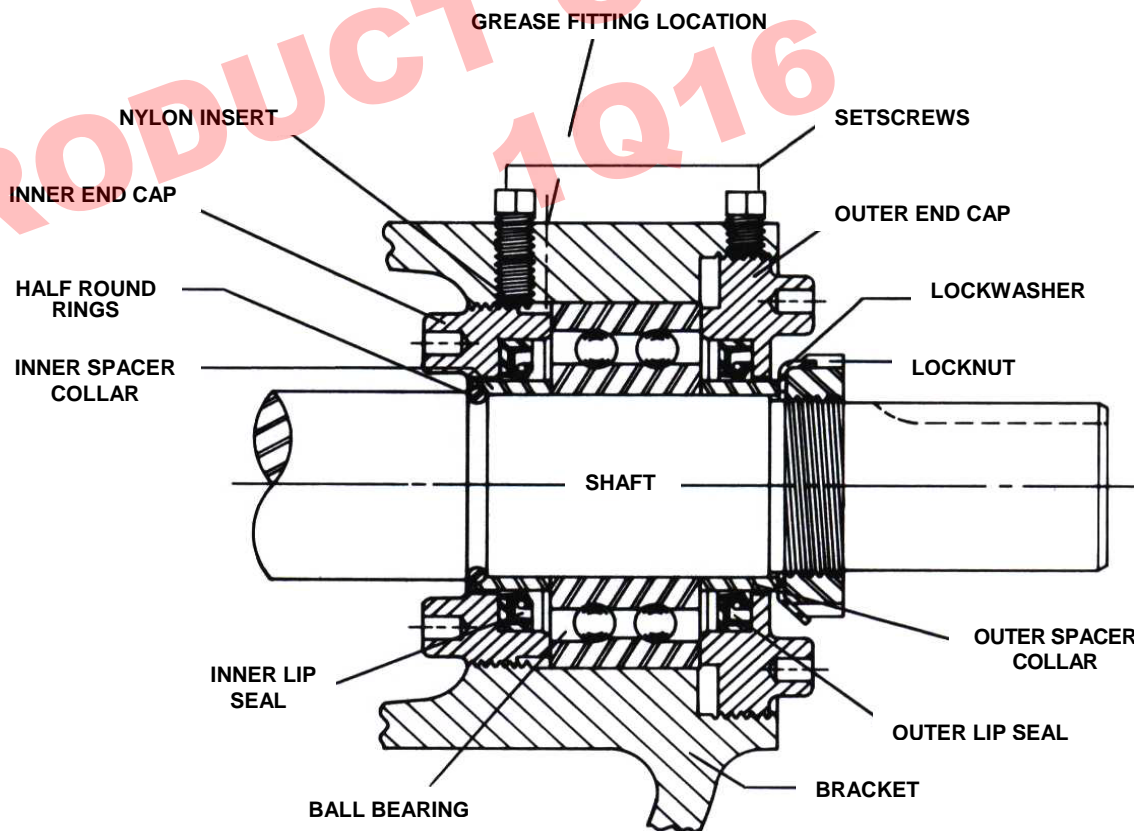

FIGURE 4
8. Loosen four setscrews over the inner and outer end caps. Remove both end caps with lipseals, spacer collars and ball bearing. **Refer to Figure 4.**
Place pair of half round rings on shaft and slide inner bearing spacer collar over half round rings to lock them in place. There is no pair of half round rings on Q, QS and M size pumps. **Refer to Figure 4**, page 5.
- Press lip seal, lip facing end of shaft, in inner end cap and insert end cap through shaft end of bracket. Turn end cap clockwise, looking at shaft end, until it engages threads. End cap spanner wrench holes must be facing Rotor. Turn end cap with spanner wrench until it projects slightly from opening on side of bracket. End cap must not be turned so far that lip seal drops off end of spacer collar on shaft or end cap becomes disengaged from threads. **Refer to Figure 4**, page 5.
- Press lip seal, lip facing end of shaft, in outer end cap and insert end cap in bracket. Turn end cap in bracket until it is tight against bearing. **Refer to Figure 4**, page 5.